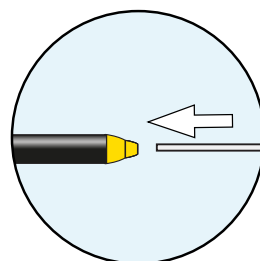

Fig 8.
8. Push the other end of the carbon fibre rod into the yellow connector on the arm section. (Fig 8)